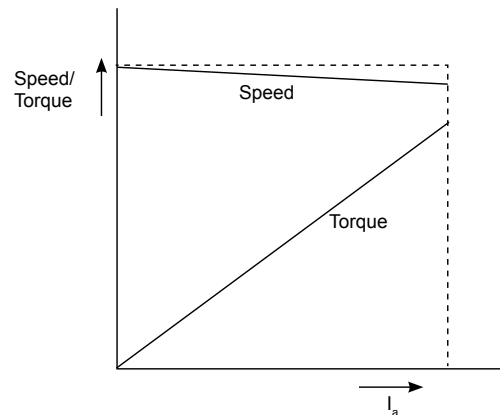

Fig. 6.11: Speed - Torque characteristics of a DC shunt motor
**ii. DC Shunt motor:** In case of a DC shunt motor, the flux  $\Phi$  is constant. Hence the torque  $T \propto \Phi I_a$  is directly proportional to the armature current, whatever the speed may be. As armature current ( $I_a$ ) increases, torque ( $T$ ) increases and vice-versa. Fig. 6.11 shows the torque characteristic of a DC shunt motor.